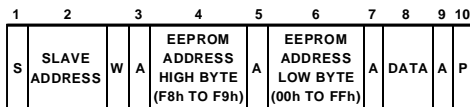

Figure 9e. Single Byte Write To EEPROM
- Write a single byte of data to EEPROM. In this case the command byte is the high byte of the EEPROM address from F8h to F9h. The first data byte is the low byte of the EEPROM address and the second data byte is the actual data. This is illustrated in Figure 9e.